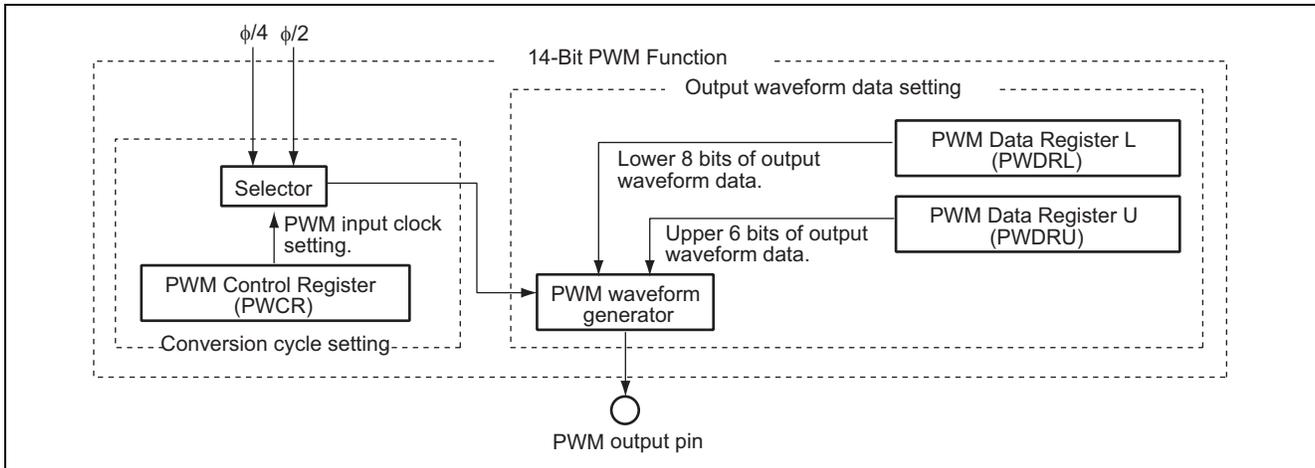

**Figure 1 Duty Cycle Pulse Output By 14-Bit PWM Function**
1. As shown in figure 1, the 14-bit PWM function is used to output a variable-duty-cycle pulse from the PWM output pin.